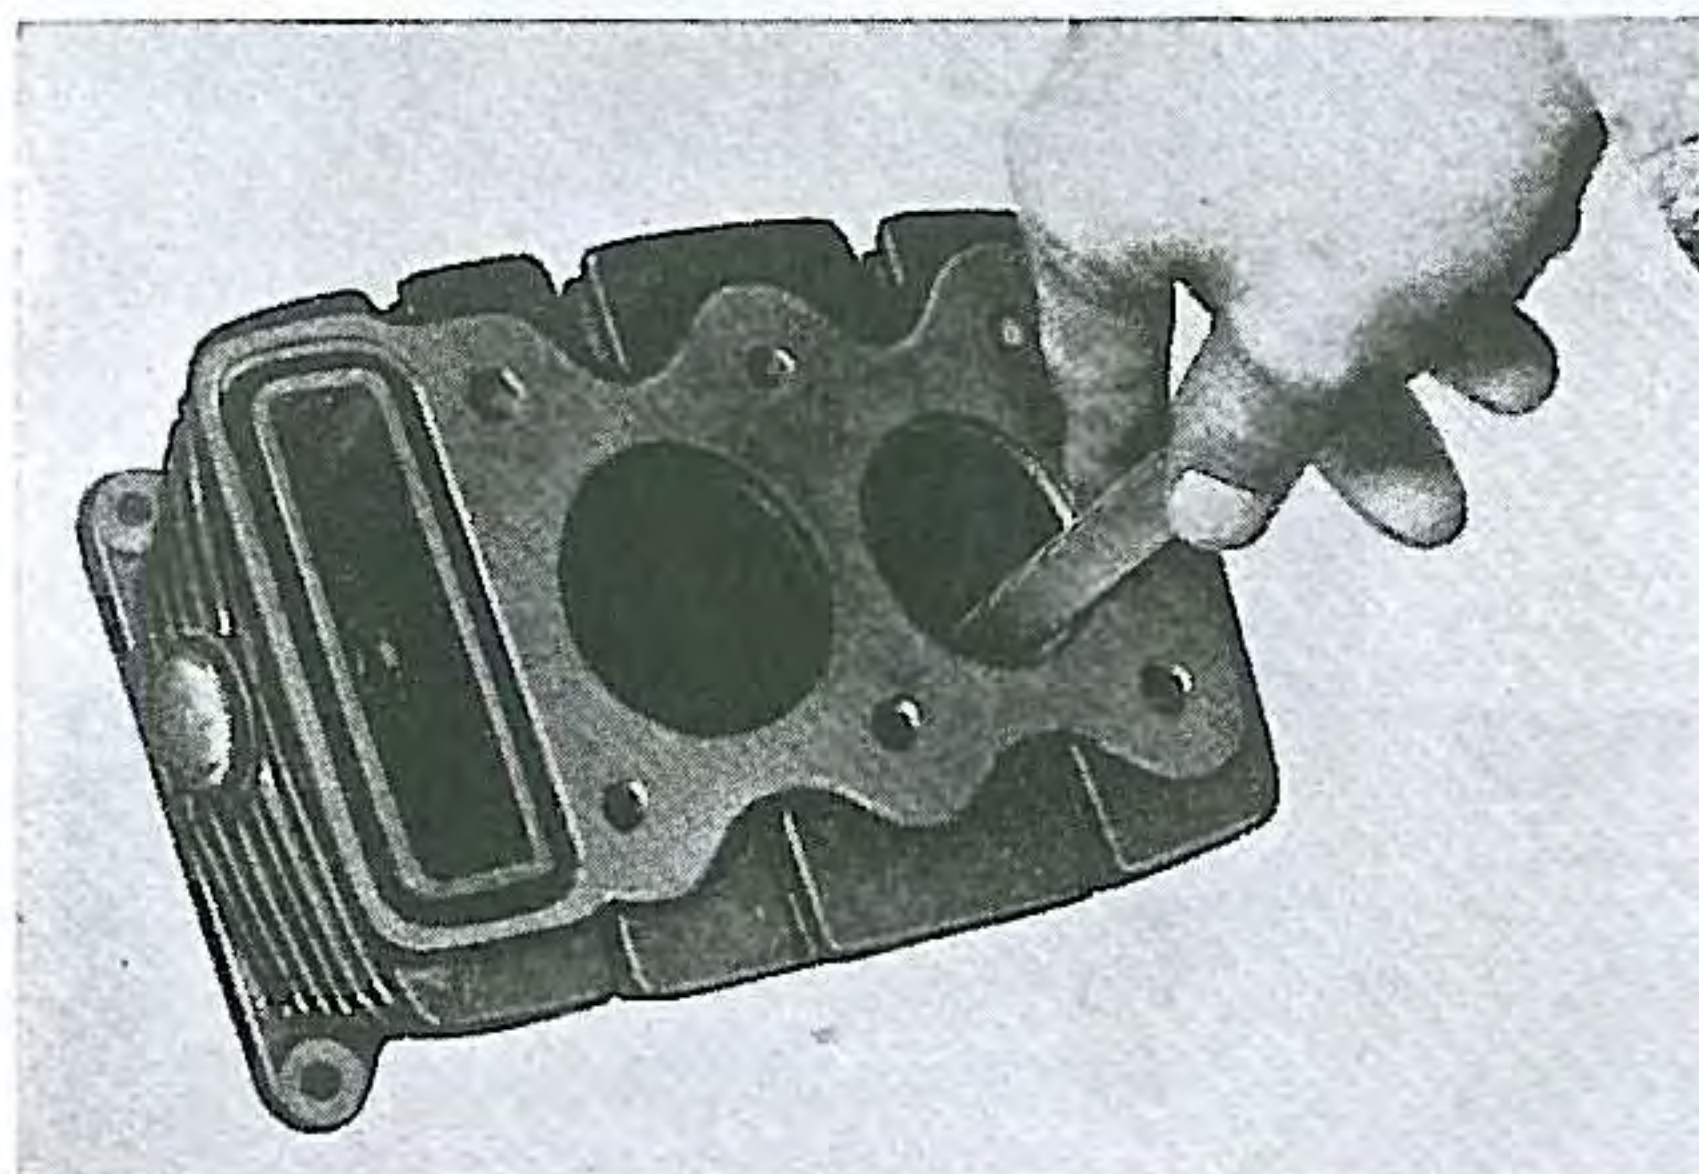
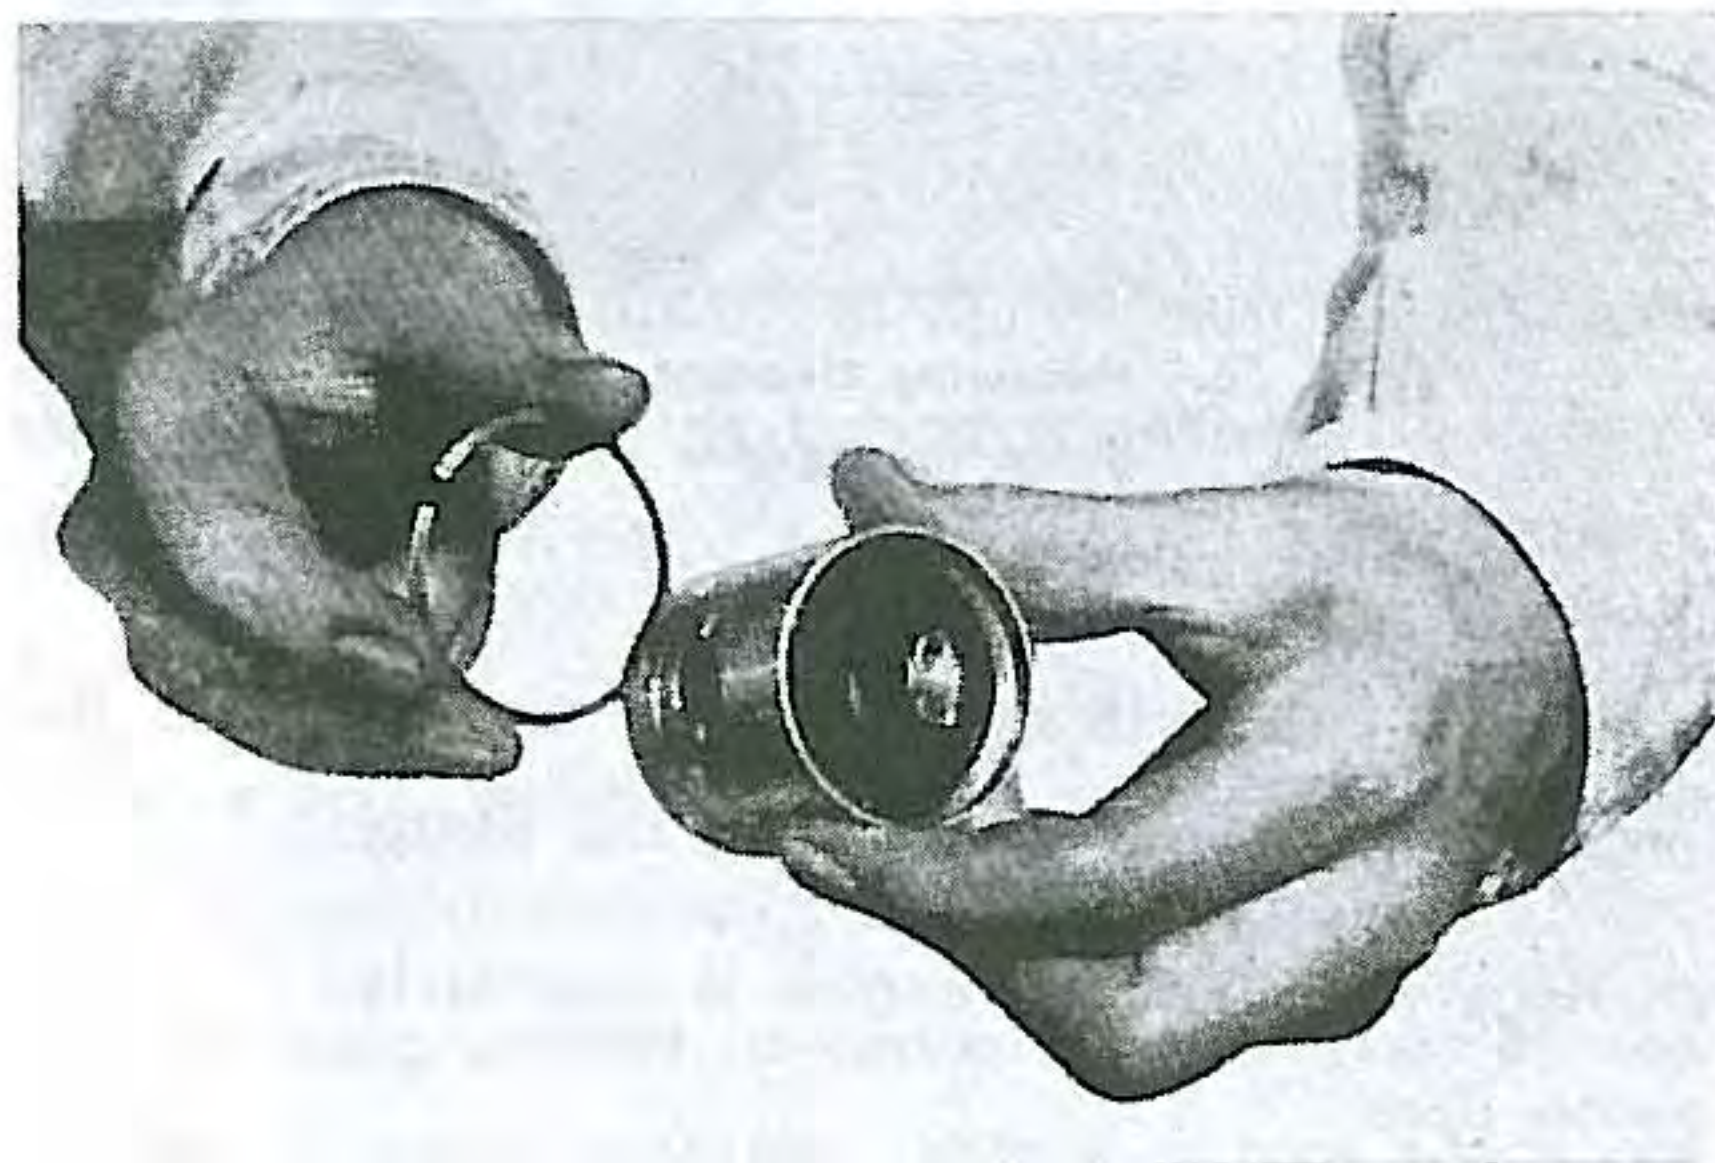

Fig. 57. Measuring piston ring end gap
Fig. 58. Checking fit for ring in piston groove
- 9-1 Fit each ring squarely in the cylinder bore about 1" from the top. Measure the piston ring end gap with a feeler gauge. The gap must be 0.008"-0.02" (0.2 mm-0.5 mm) for both compression and oil rings. (Fig. 57)
- 9-2 If the gap is less than 0.008", file the ends of the piston ring squarely with a fine file to obtain the proper gap. If the gap is more than 0.02", replace with a new ring. Oversize rings are available in sizes listed in II (4) above.
- 9-3 Before fitting new rings in the grooves of new pistons, roll the ring in the groove all the way around the piston to make sure it fits freely and there are no obstructions. (Fig. 58)